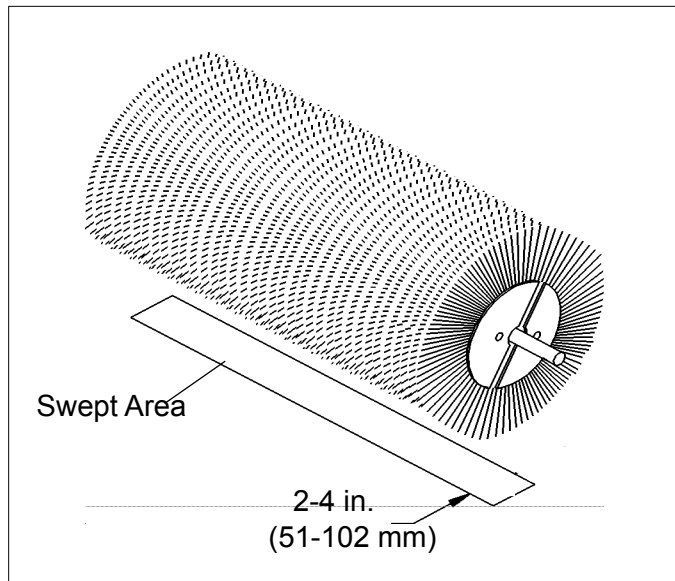

Figure 1
6. Position the brush head assembly straight ahead. On each side, measure from the brush frame to the ground (figure 1). If measurements are not equal:
4. Raise the sweeper and back away; switch off the engine and remove the key. The brush pattern left in the dust should be 2-4 inches (51-102 mm) wide, running the length of the brush. (Compare the swept area with figure 1.)